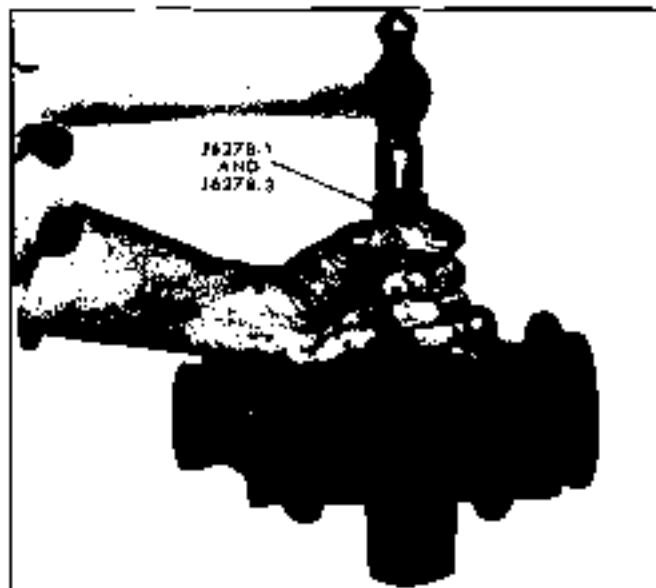

Fig. 9-66 Removing Pitman Shaft Needle Bearing
6. If pitman shaft needle bearings are to be replaced, remove bearing by driving out of housing, using tool J 6278-1 with adapter J 6278-3 (Fig. 9-66)